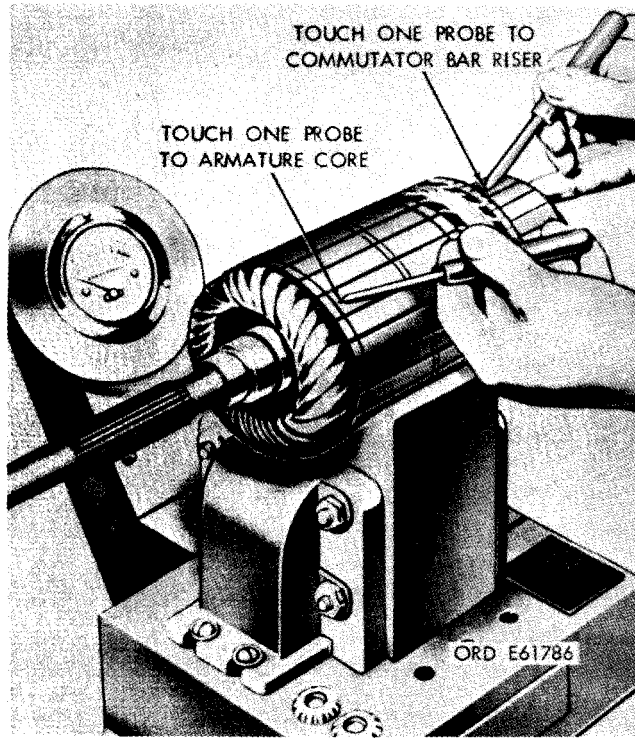

Figure 3-26. Testing armature for grounds.
(1) Inspect commutator contact surface of armature. A satisfactory condition is indicated by an even, highly burnished, dark-copper color. If contact surface is rough, pitted, scored, burned, or coated with hard carbon or oil, commutator must be cleaned or resurfaced as necessary, provided it is in good electrical and mechanical condition as a result of following inspection. Check armature against limits specified in repair and rebuild standards (para 3-31 a) and replace starter if it is not within these limits. Inspect splines of armature shaft for wear or damage and replace starter if either condition exists.
(2) Inspect armature for grounds with a test light by touching one probe to commutator bar riser and other to armature core (fig. 3-26). Test all commutator bars in this manner. If test light glows, armature is grounded and starter must be replaced.